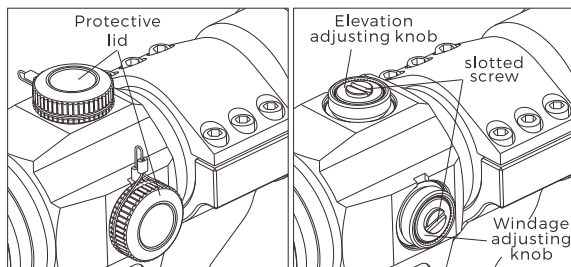

Fig 6
1. On top of sight is the elevation adjusting knob , windage adjusting knob is on the right side (see Fig6), The sight has been primarily adjusted in factory.
2. First open the protective lid (see Fig6), position slot type screwdriver on the slotted screw , then rotate the screw to right or left for adjustment . Each left or right click is for one shift moving equivalent to 0.5 MOA value.